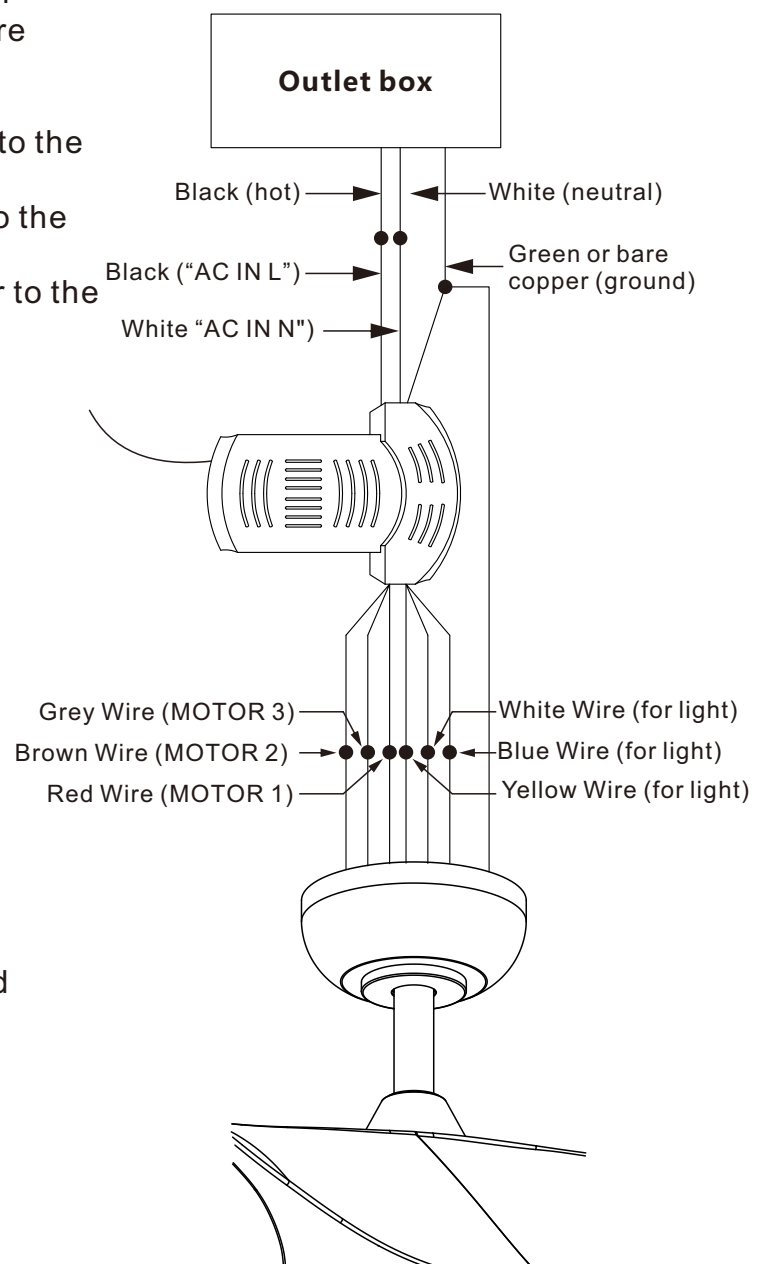

Figure 19
Motor to Receiver Electrical Connections:(Fig.19)
Step 3. (Fig.19) **Receiver to House Supply Wires Electrical Connections:** Connect the Black (hot) wire from the ceiling to the black wire marked "AC in L" from the receiver.
Step 4. (Fig.19) If your outlet box has a ground wire (green or bare copper) connect it to the fan ground wires and the receiver ground wire; otherwise connect the hanging bracket ground wire to the fan and the receiver ground wire. Secure the wire connection with a plastic nut provided. After connecting the wires, spread them apart so that the green and white wires are on one side of the outlet box and other wires are on the other side. Carefully tuck the wire connections up into the outlet box.